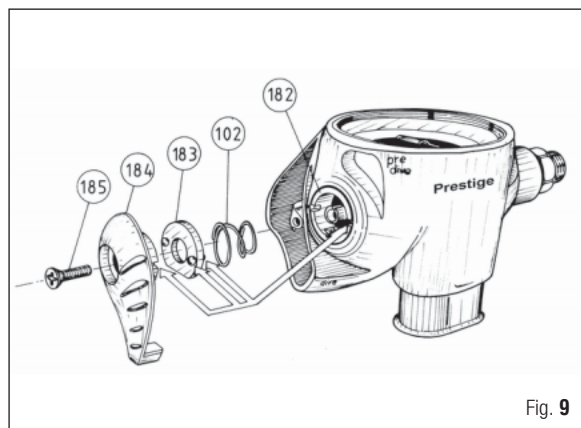

Fig. 9
- e. Correctly position the DPD block (183) on the spring (102) (Fig. 9).
f. Correctly insert the DPD knob (184) on the DPD housing (182) (Fig. 9).